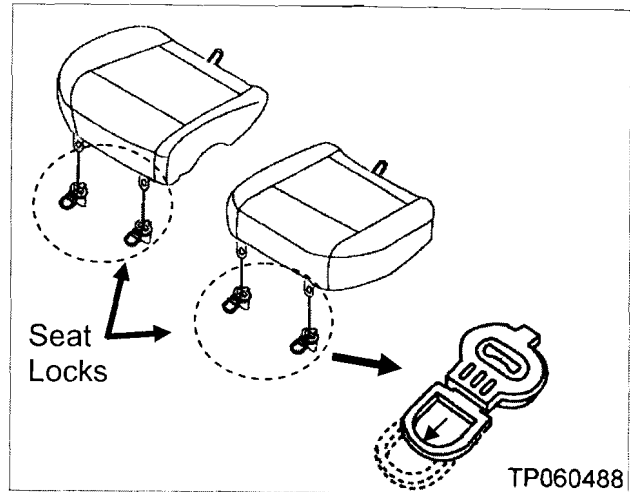

Figure 1
- a. Pull the two seat locks shown in Figure 1 for each cushion.